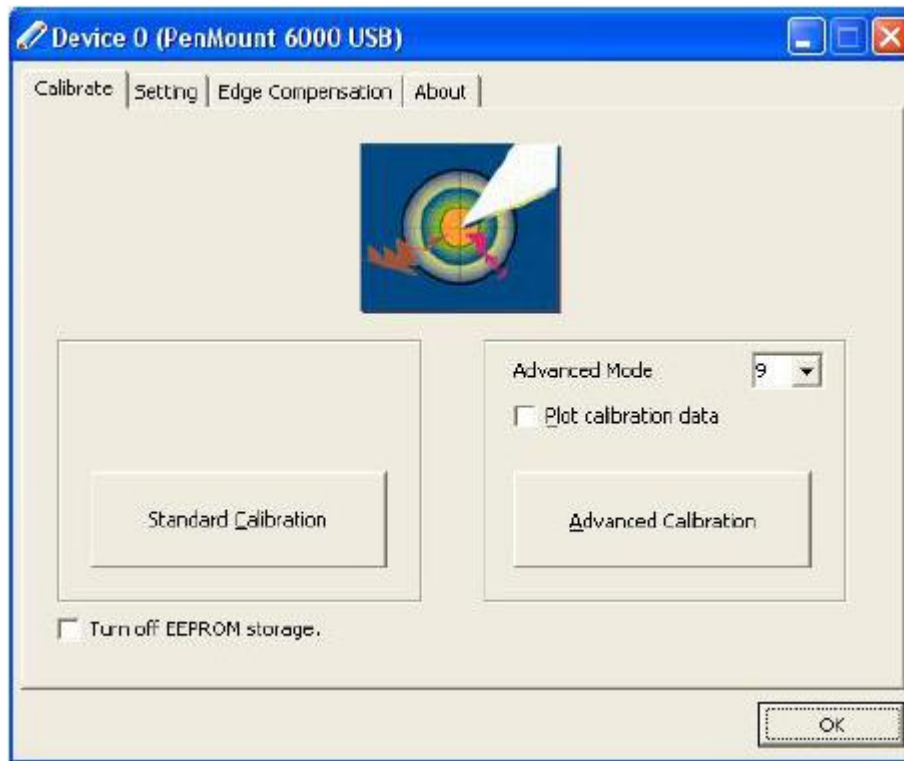

Figure 7-10: Calibration Initiation Screen
Step 8: The calibration initiation screen in **Figure 7-10** appears.
Step 9: Select the Standard Calibration button as shown in **Figure 7-10**.